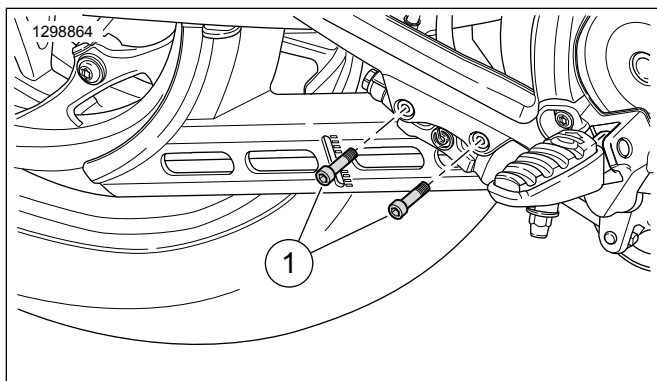

Figure 2. OE Screw Removal from Rear Brake Cylinder
1. See Figure 2. Remove Original Equipment (OE) screws (1) from rear brake cylinder.